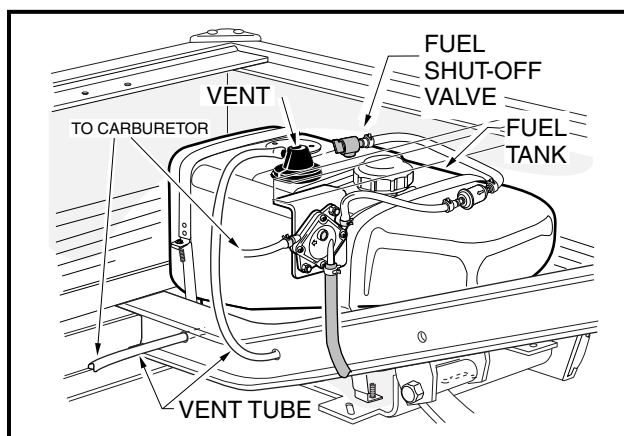
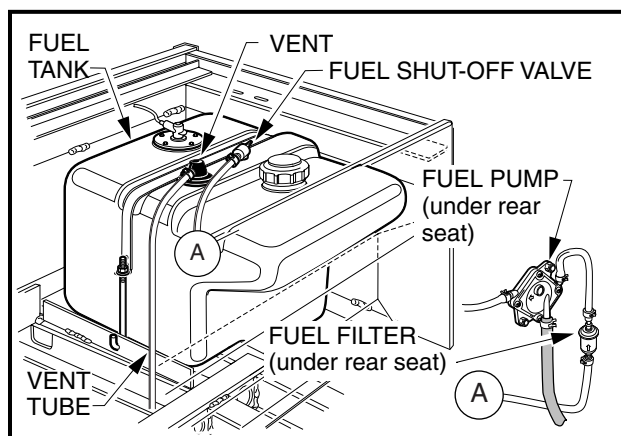

Figure 27 Fuel Tank – XRT 1200
Figure 28 Fuel Tank – XRT 1200SE
- If the vehicle has an all-weather enclosure installed, be sure the fuel tank is properly vented as shown (Figure 27, Page 37 or Figure 28, Page 37).